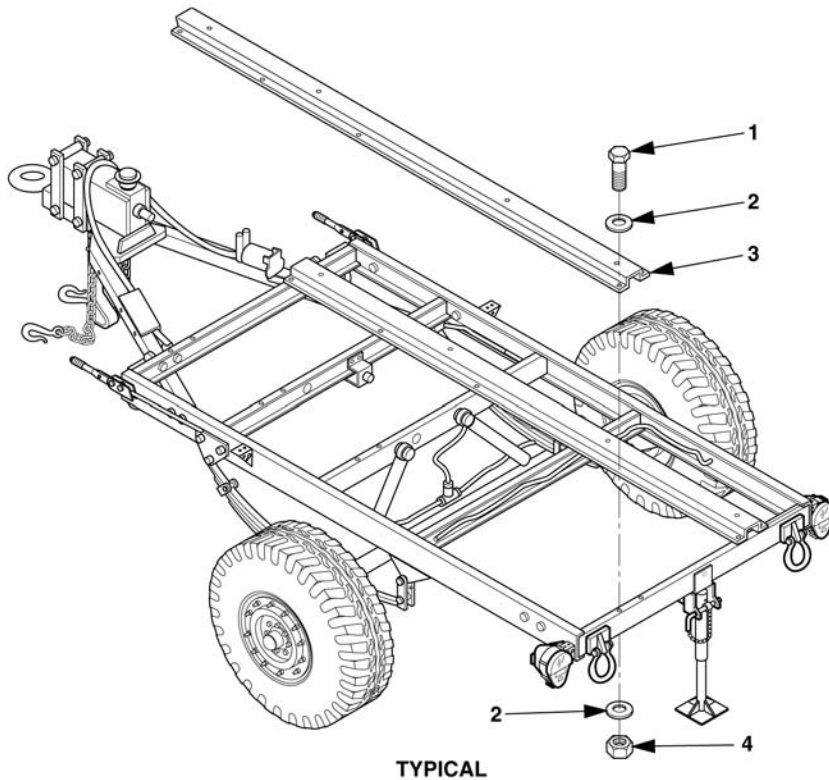

Figure 5-2. Replace Rails, Mounting.
Remove sixteen self-locking nuts (4, Figure 5-2), thirty-two flat washers (3), sixteen bolts (1), and two mounting rails (2).